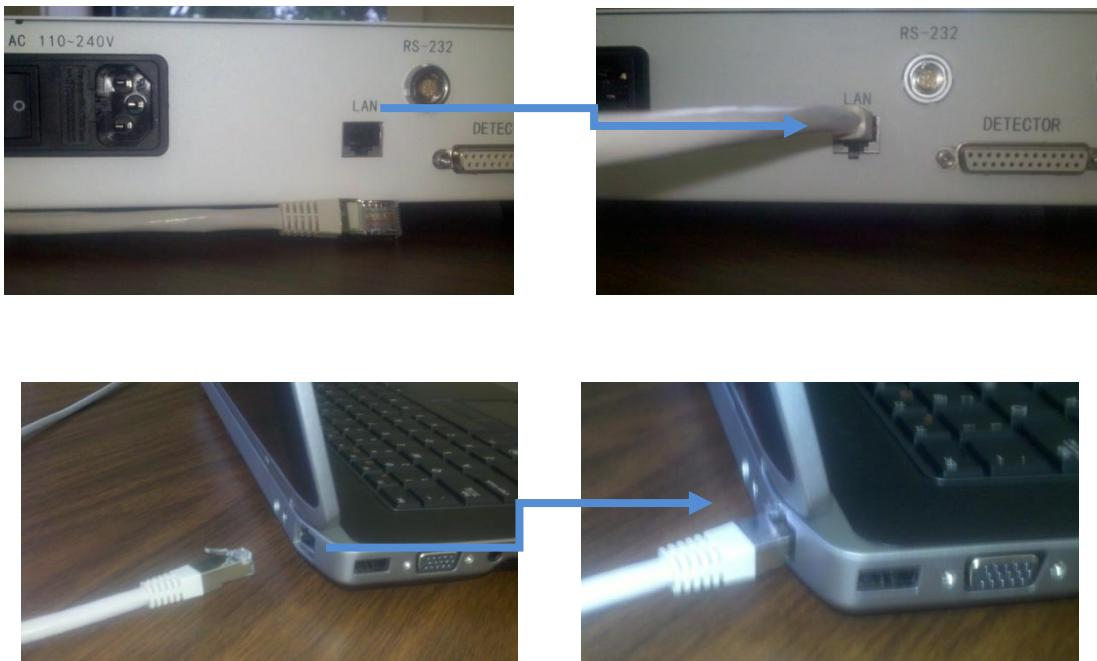

Figure 17: PC Connections
3. Connect the PC and the power supply, directly, using a *single network cable* Figure 17